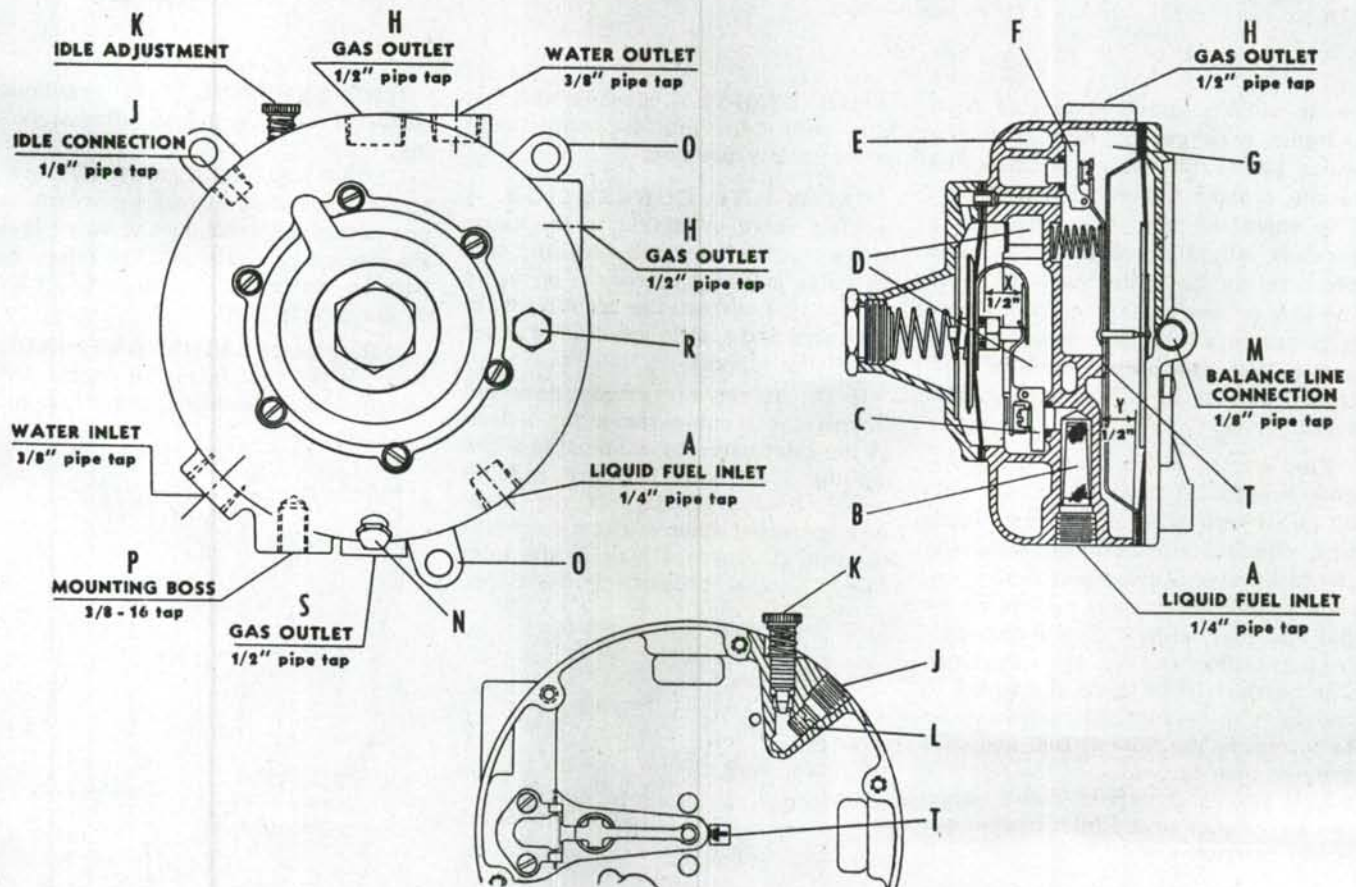

Fig. AC51—Model W Ensign LPG regulator used on the WD45 engine—assembled view.
The LP-gas system consists of an Ensign model Kg1, which is a straight LP-gas carburetor Fig. AC49A, or a model Kg1, Fig. AC49B, which is a combination gasoline and LP-gas carburetor. Both carburetor models are fitted with an Ensign model 3069 dry gas economizer, Fig. AC50. The vaporizer and pressure regulating device, Fig. AC51, is an Ensign model W unit. Fuel is filtered by a model 6259 Ensign filter, Fig. AC50A.
111C. IDLE MIXTURE SCREW. With the choke open, engine warm and idle stop screw set, adjust idle mixture screw (K—Fig. AC51) which is located on regulator until best idle is obtained. An average adjustment is $\frac{3}{4}$ of a turn open.
114. HOW IT OPERATES. In the Ensign model W regulator, fuel from the supply tank enters the regulating unit (A—Fig. AC51) at a tank pressure of 25-80 psi and is reduced from tank pressure to approximately 4 psi at the inlet valve (C) after passing through the strainer (B). Flow through the inlet valve is controlled by the adjacent spring and diaphragm. When the liquid fuel enters the vaporizing chamber (D) via the valve (C) it ex-
If the foregoing remedy does not correct the trouble check for a leak at the inlet valve by connecting a low reading (0-20 psi) pressure gage at point (R—Fig. AC51). If the pressure increases after a warm engine is stopped, it proves a leak in the inlet valve. Normal pressure is 3½-5 psi.
Before reassembling the unit, note dimension (X—Fig. AC51) which is measured from the face on the high